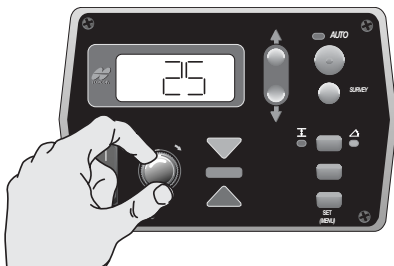

Figure 20. Selecting Gain Menu Option
2. Turn the Grade Adjustment Knob to select the desired value, typically 25 for most paving applications (Figure 20).